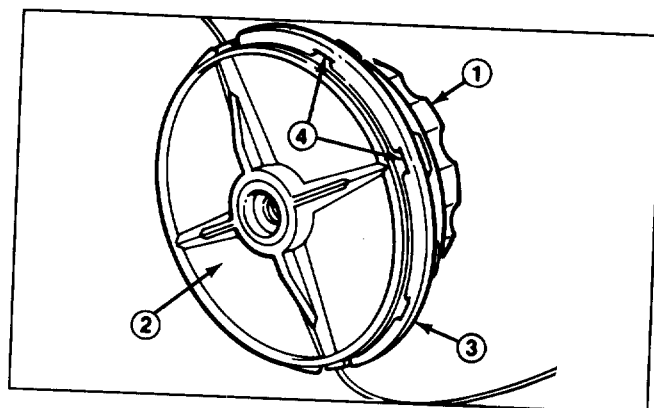

Figure 9
1. Loosen spool knob until spool teeth are above spool housing (Figs. 9 & 10).
3. Align spool teeth with notches in spool housing and tighten knob securely. Make sure spool teeth are in notches before tightening knob (Fig. 9).